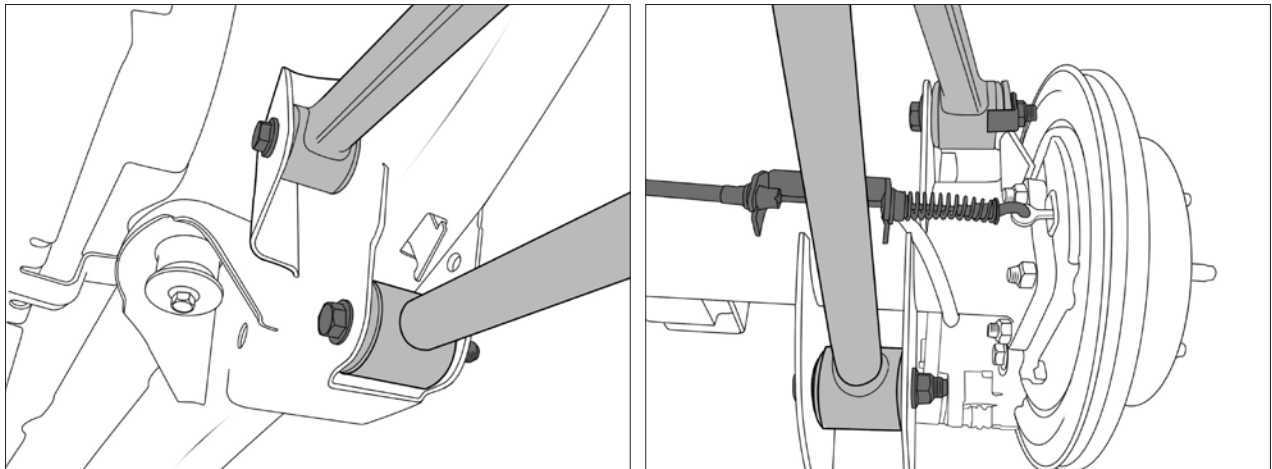

Figure 2
2. Loosen but DO NOT remove all 8 control arm bolts. Detach parking brake cables from axle (Fig. 2).